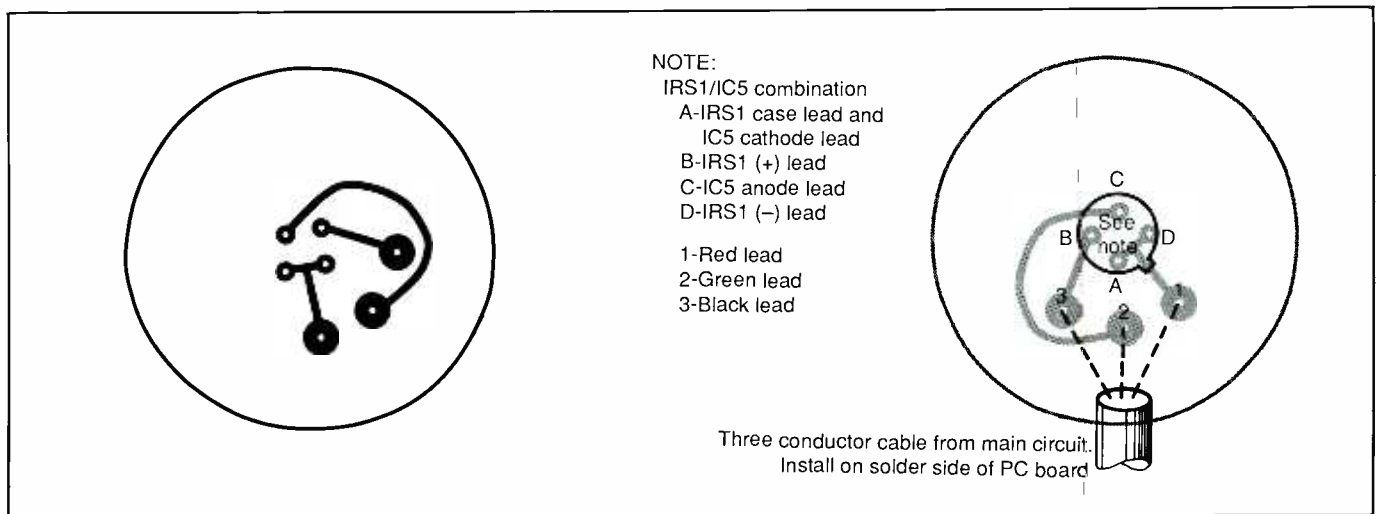

Fig. 5. Actual-size etching-and-drilling guide (A) for probe pc board and wiring guide (B) for same.
board on which to mount the IRS1/IC5 combination and wire to it the cable that connects the probe assembly to the main circuit. Fabricate this board with the aid of the actual-size etching-and-drilling guide shown in Fig. 5(A). Once the board is ready, mount the IRS1/IC5 assembly on it, as shown in Fig. 5(B).
Now remove 1 inch of outer plastic jacket from both ends of a 24- to 36-inch length of three conductor cable, preferably with insulation color coded red, green and black. Twist together the exposed fine wires in all conductors at both ends of the cable and sparingly tin with solder. Plug the conductors at one end into the holes specified in Fig. 5(B) and solder them into place. Note that the cable